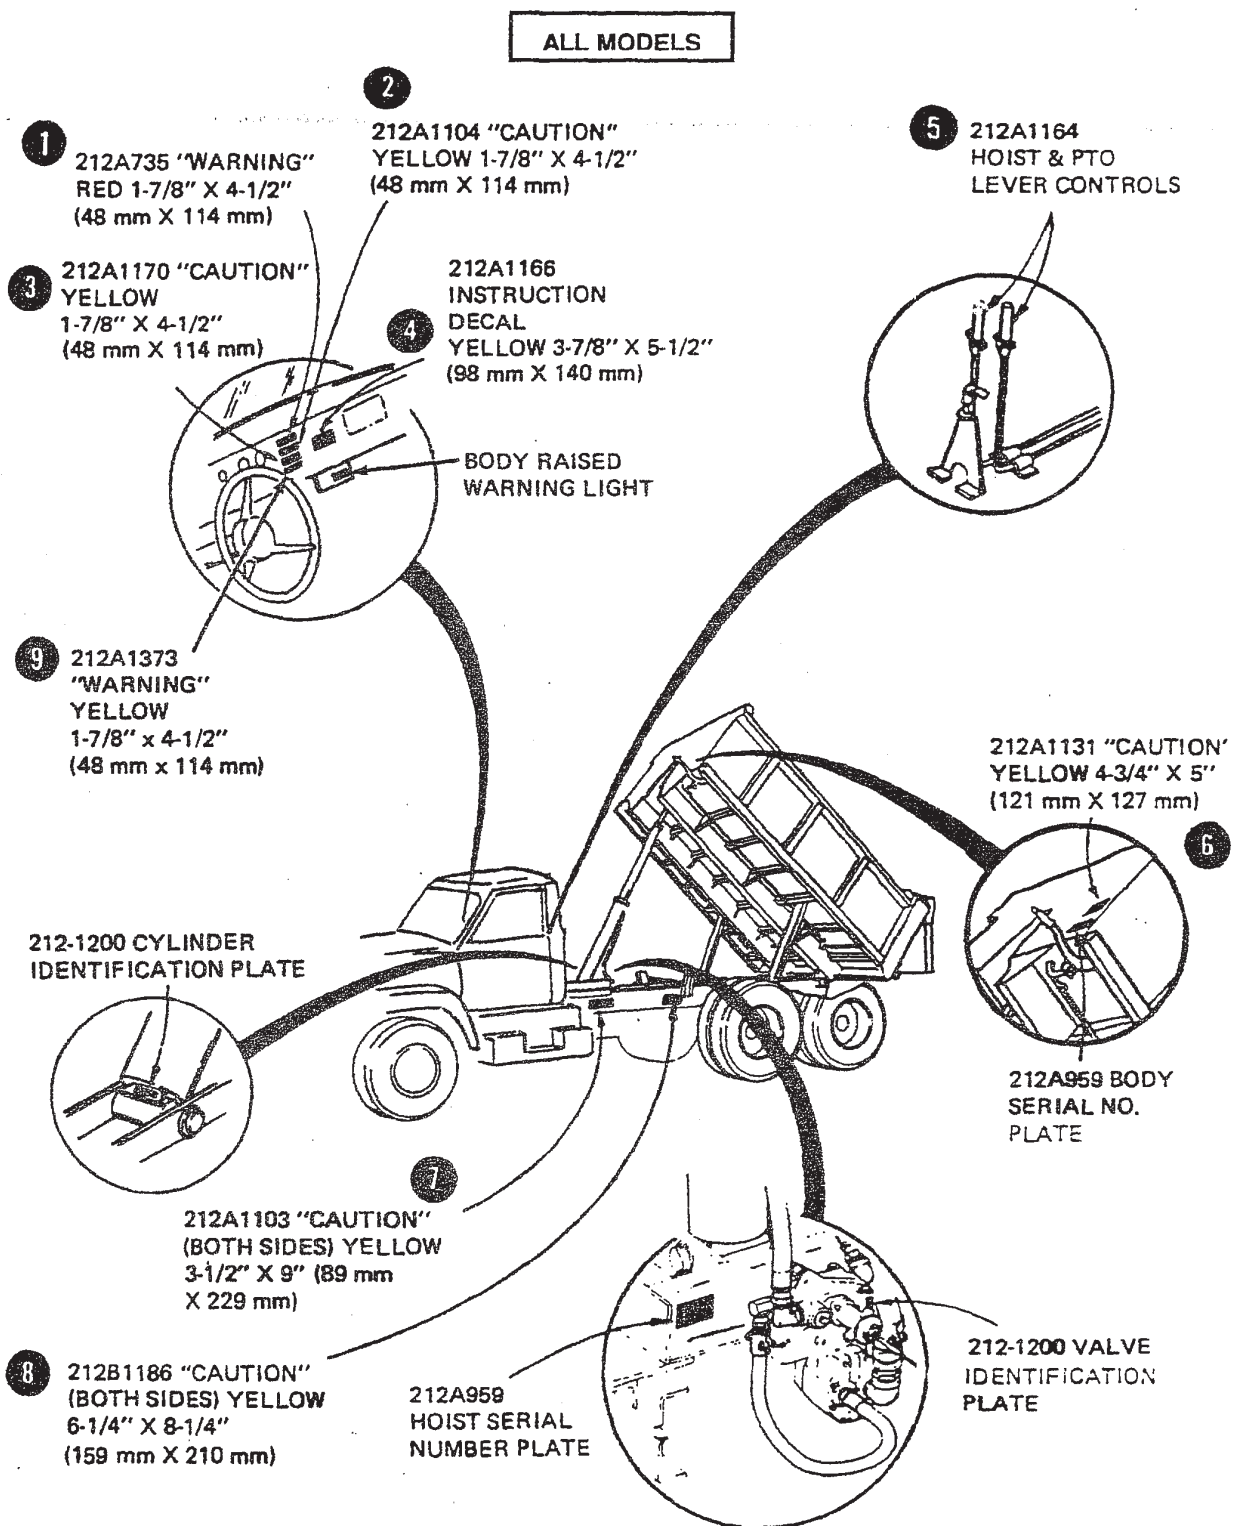

Figure 28. Decals and Serial Number
Install decals according to the instructions below. Refer to figure 28 for decal location. Model and serial numbers are located by manufacture as shown in figure 28.
- 4 **INSTRUCTION DECAL #212A1166** is 3-7/8" x 5-1/2" (98 mm x 140 mm). It must be placed on the dash next to the WARNING and CAUTION decals as shown in figure 28.
- 6 **CAUTION DECAL #212A1131** is 4-3/4" x 5" (121 mm x 127 mm). It must be placed on the front left hand corner of the body as shown in figure 28.
- 7 **CAUTION DECAL #212A1103** is 3-1/2" x 9" (89 mm x 229 mm). It must be placed on the chassis frame (one on each side) as shown in figure 28.